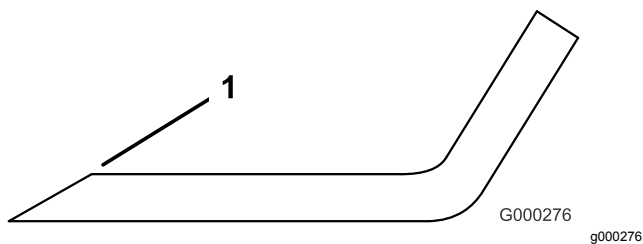

Figure 75
1. Sharpen the cutting edge at both ends of the blade (Figure 75).